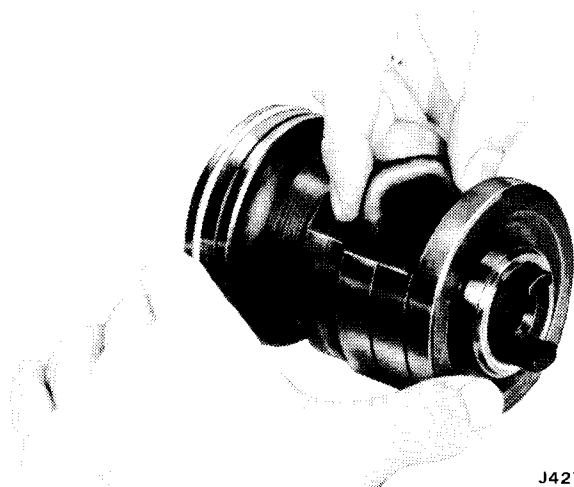

Fig. 11-86 Installing Ball Return Guides in Rack-Piston Nut
(6) Insert guides in guide holes of rack-piston nut (fig. 11-86). Guides should fit loosely.
(7) Place return guide clamp over guides and install attaching bolts and washers. Tighten bolts to 10 foot-pounds torque.